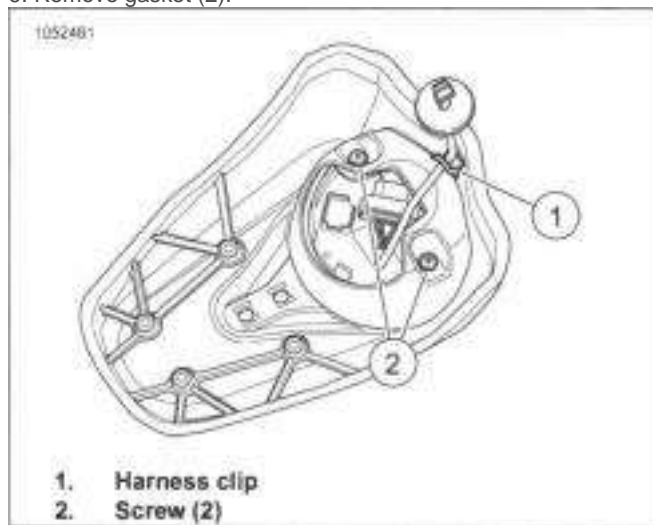
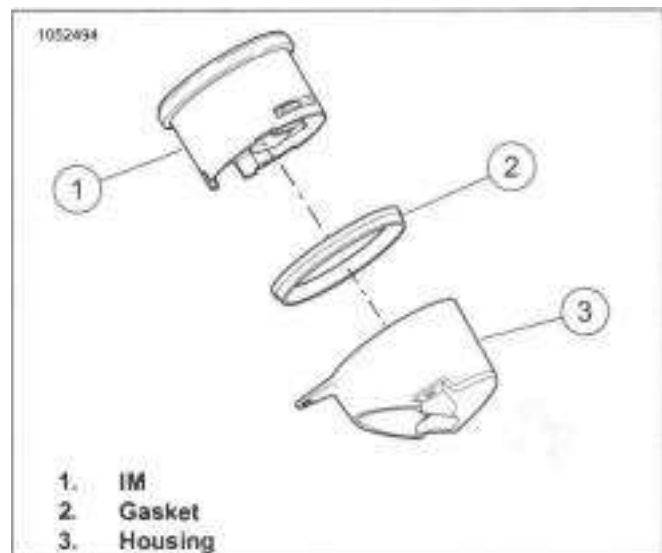
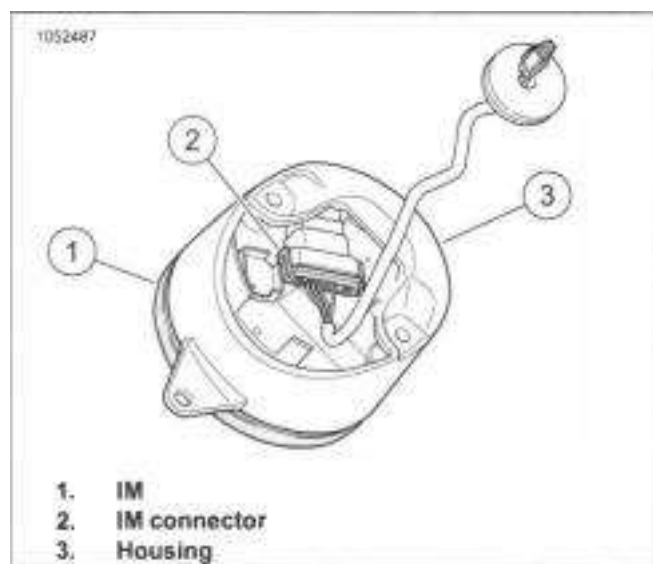

Figure 7-32. Console: FXFBS
Figure 7-34. IM: FXFBS
Figure 7-33. IM and Housing: FXFBS
1. See Figure 7-32. Remove screws (2).
2. Remove harness from clip (1).
4. See Figure 7-33. Disconnect IM connector (2).
5. See Figure 7-34. Pushing from the bottom of the IM (1), separate the IM from the housing (3).
6. Remove gasket (2).
See Figure 7-34. Install gasket (2) onto IM (1).
2. Install IM into housing (3).
3. See Figure 7-33. Connect IM connector (2).
5. See Figure 7-32. Install screws (2). Tighten.